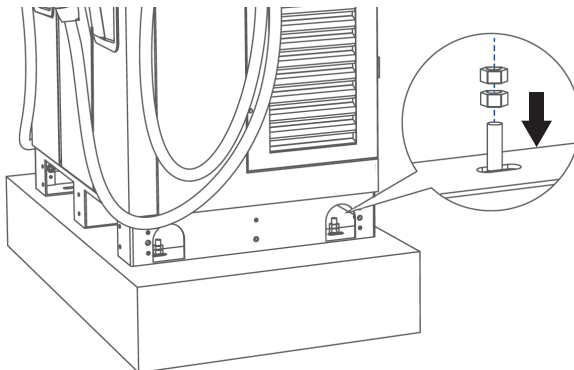

Figure 15. EVSE Attachment
3) Attach 4 washer and 8 nuts (2 each) to the 4 M12 threaded rods. See Figure 15.